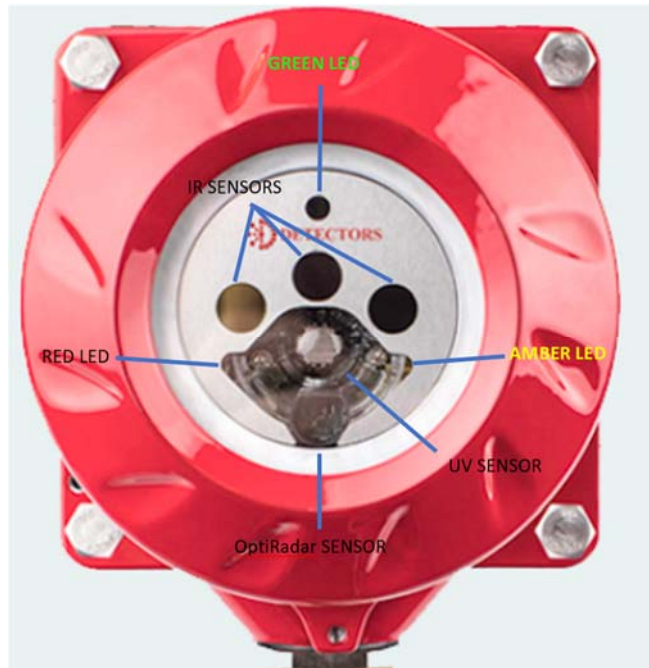

**Fig. 3**
2.4.2 Terminate each color-coded wire to an appropriate terminal in the Fire Alarm Panel, PLC, or Control System. Figure 3 shows the basic wiring configurations for the detector
**5.2.2 Manual Test:** In addition to the continuous Automatic Self-Test, the **D381** detectors can be tested manually on a periodic basis. Referring to Fig. 3, Detector Wiring Schematic, the manual test can be initiated by momentarily connecting wire Blue/Black (Test) to 24 VDC (return) of power supply. To facilitate the manual test, A momentary pushbutton switch can be installed and located at the Fire Alarm panel or Control Center.